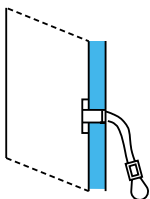

Fig. 6
- 10 Push down on the lower plastic leg of the toggle bolt and break it off flush with the wall (refer to Figure 6).